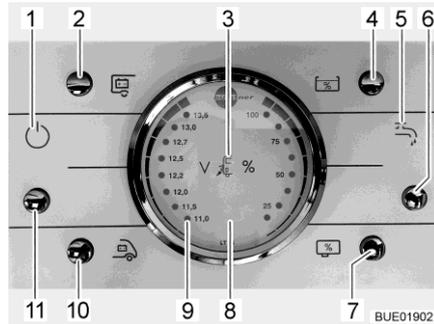

Fig. 184 Panel LT 96
The button (Fig. 184,11) switches the panel and the 12 V power supply to the living area on and off.
- Switching on:** ■ Press the button (Fig. 184,11): The 12 V living area power supply is switched on. The indicator lamp (Fig. 184,1) lights up.
- Switching off:** ■ Press the button (Fig. 184,11): The 12 V living area power supply is switched off. The indicator lamp (Fig. 184,1) goes out.
With the V/tank gauge (Fig. 184,8), note the left scale. The gauge automatically lights up as soon as a button is pressed.
- Displays:** ■ Press the button (Fig. 184,10): The battery voltage of the starter battery is displayed.
- Press the button (Fig. 184,2): The battery voltage of the living area battery is displayed.
With the V/tank gauge (Fig. 184,8), note the right scale. The gauge automatically lights up as soon as a button is pressed.
- Press the button (Fig. 184,4): The volume of water is displayed.
- Press the button (Fig. 184,7): The volume of waste water is displayed.
Switching on: ■ Press the button (Fig. 184,6): The water supply is ON. The water pump indicator lamp (Fig. 184,5) lights up.
Switching off: ■ Press the button (Fig. 184,6): The water supply is OFF. The water pump indicator lamp (Fig. 184,5) goes out.
The red "ALARM" warning light (Fig. 184,9) flashes as soon as the voltage of the living area battery falls below 11 V (measured under operation) and there is a risk of a total discharge.
The 12 V indicator lamp (Fig. 184,1) lights up when the 12 V main button (Fig. 184,11) is switched on.
The 230 V indicator lamp (Fig. 184,3) illuminates whenever line voltage is available at the transformer/rectifier input.